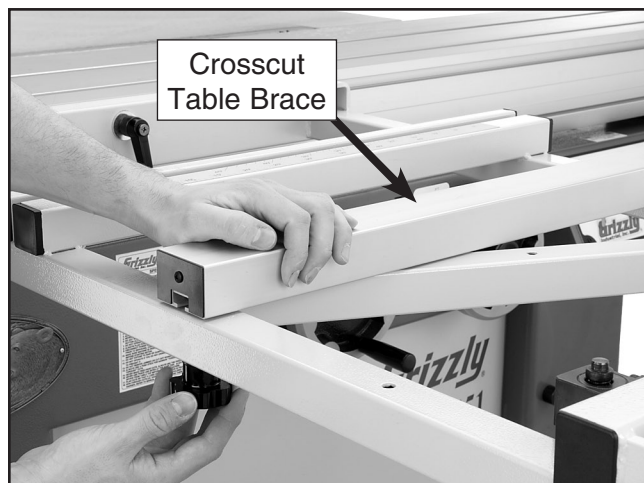

Figure 35. Installing the crosscut table brace.
4. Align the T-nuts in the crosscut table brace with the holes in the crosscut table and thread the M8-1.25 x 50 knobs, with 8mm flat washers, into the T-nuts as shown in **Figure 35**.